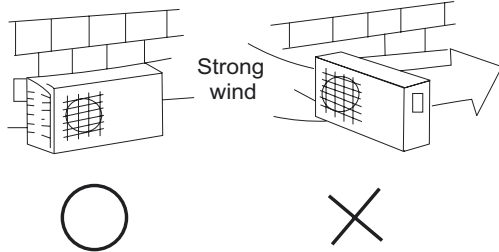

Fig. 13 – High Wind Installation
- If the installation location may be exposed to strong wind, use a wind baffle. See Fig. 13. Check with your representative to obtain drawings for wind baffles.